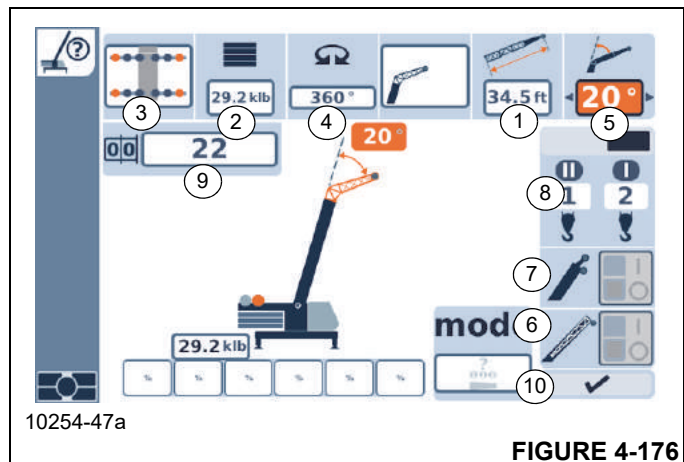

FIGURE 4-176
NOTE: When performing a lift over the auxiliary boom nose, select “auxiliary boom nose installed” in the RCL (7, Figure 4-176). The predicted radius in the RCL will include the added length of the auxiliary boom nose.
- Either enter the individual components (1, Figure 4-176) to (8) one after the other.
- Or enter the RCL code (9) and the reeving (8).